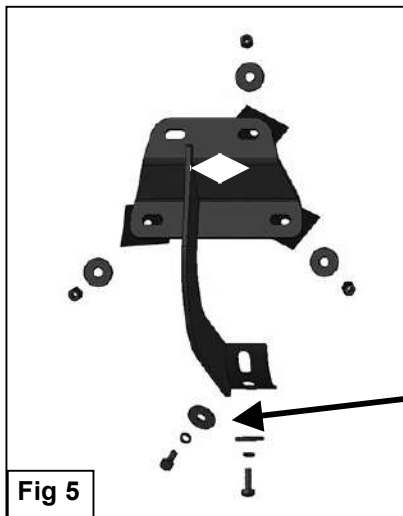

Fig 5
5. Select the driver/left Sidebar. Carefully position the Sidebar onto the (3) Mounting Brackets. **IMPORTANT:** Do not slide, (front to back or rotate), the Sidebar on the Brackets or damage to the finish on the Sidebar may result. Attach the Sidebar to the Mounting Brackets with (4) 8mm x 25mm Hex Bolts, (4) 8mm Lock Washers and (4) 8mm Flat Washers, **(Figure 5)**. Do not tighten hardware.